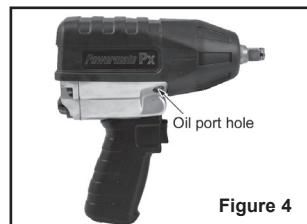

Figure 4
3. Add 1 tablespoon of air tool oil or SAE10 nondetergent oil into the oil port hole. Replace the allen socket screw (see Figure 4).